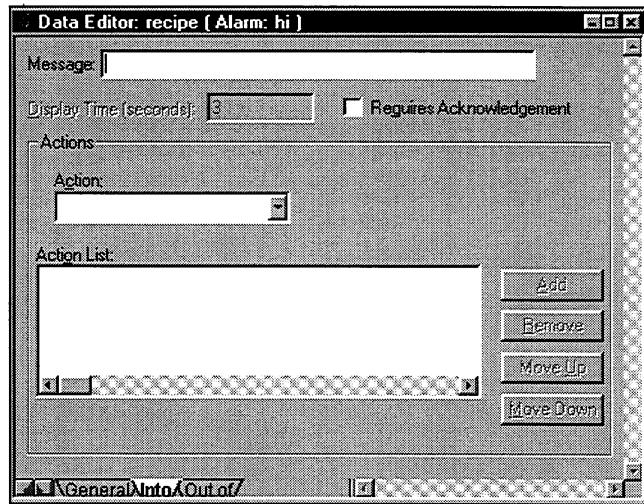

Figure 10-4. Into Alarm Page
1. Select the Into tab on the bottom of the Alarm form to access the Into alarm page, as shown in Figure 10-4.
Select the Out of tab on the Alarm Editor form. Then follow steps 1 through 6 described above for the *Into Alarm* section. The dialog box will look the same as the one shown in Figure 10-4.